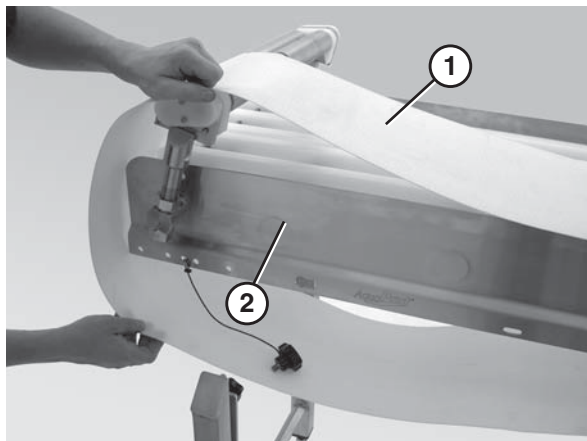

Figure 32
3. Slide the belt (Figure 32, item 1) on over the conveyor frame (Figure 32, item 2).